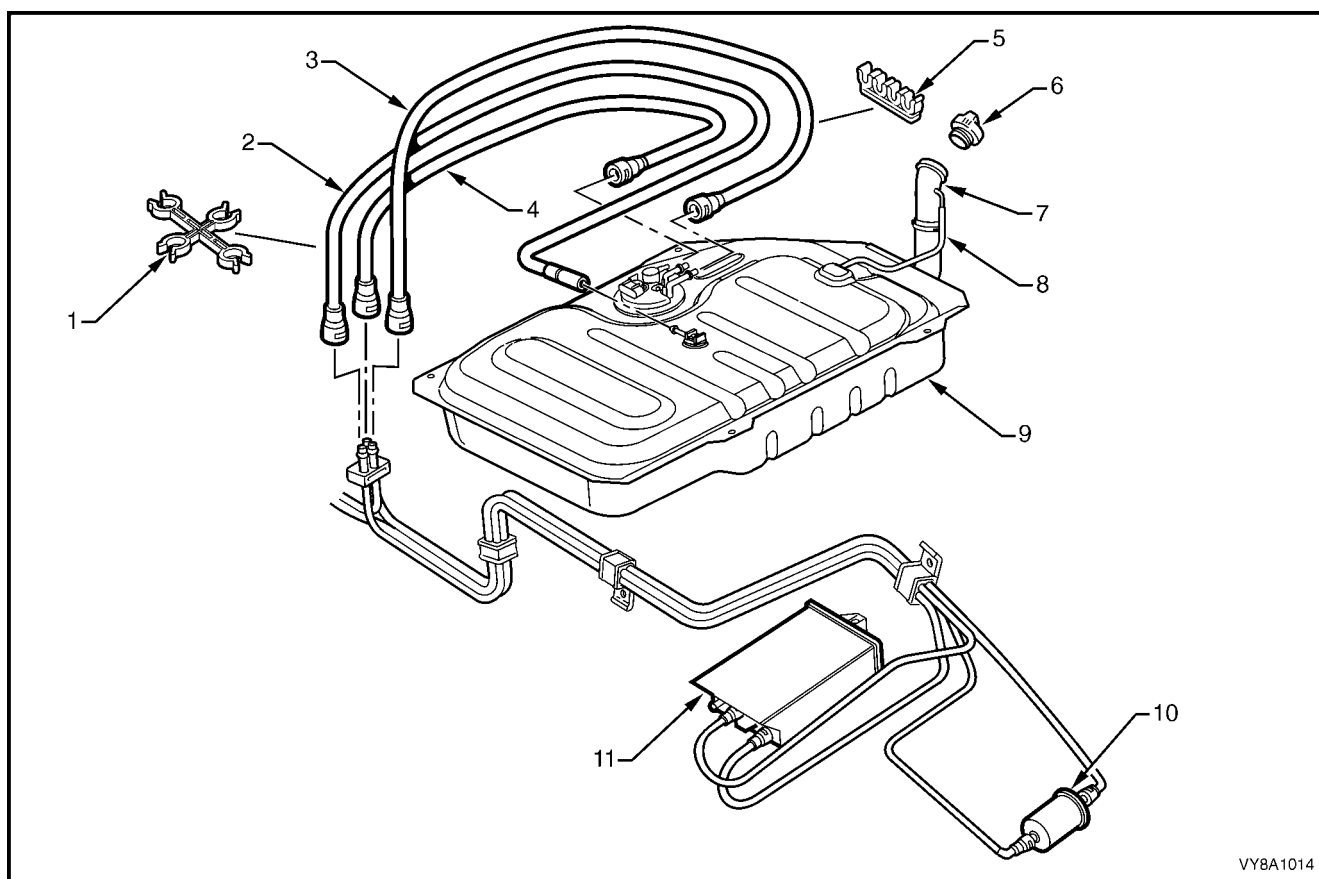

Figure 8A1–50
SERVICE NOTE: Refer to Figure 8A1–49, for V6 engines, use special tool 7370 to remove the fuel feed hose (2) and fuel return hose (1) quick-connect fittings. Use special tool AU533 to remove the vapour hose (3) quick-connect fitting, refer to **2.10 QUICK-CONNECT FITTINGS**.